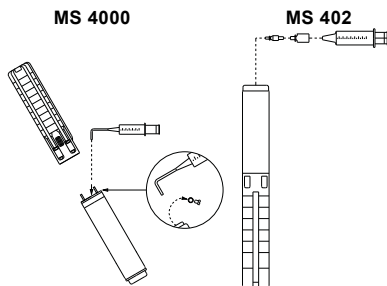

Fig. 3 Pump position during filling, MS 4000 and MS 402
1. Position the submersible pump as shown in fig. 3.
3. Inject liquid into the motor with the filling syringe as shown in fig. 3 until the liquid runs back out of the filling hole.